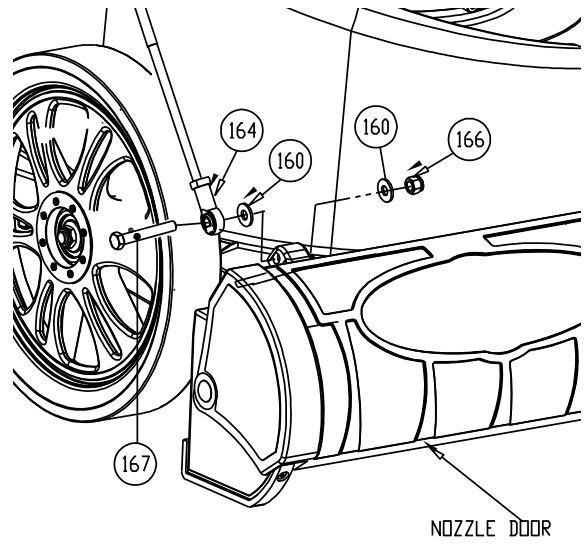

Fig. 4
5. Attach rod end (item 164) to the nozzle door rod then secure in place by tightening jam nut. (See Fig. 4 next page)
8. Attach nozzle door rod to the lever with nozzle door closed and lever in hose kit position. *NOTE:* Check to see that the nozzle door opens and closes all the way (see page 15). Tighten or loosen the rod end (item 164) for any adjustments. (See Fig. 4 and 5 next page)